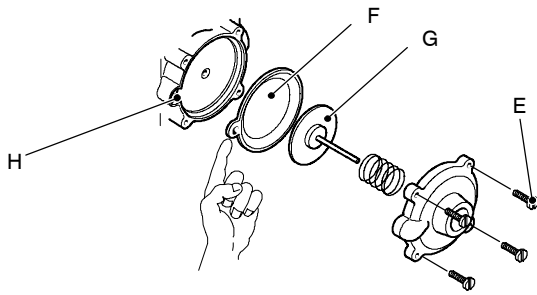

Fig. 55
- 3 Unscrew the four screws E (see Fig. 55) open the hydraulic operator and remove the membrane F.
When assembling the membrane, ensure that its concave side faces towards the actuator plate G and the reference indicated aligns with the seat H (see Fig. 55).